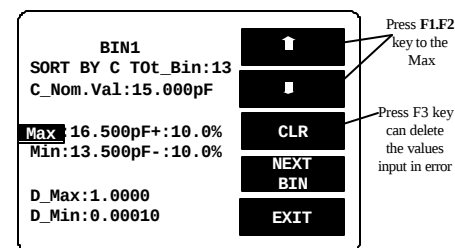

Figure 8-17
- Press  $\Delta$  key. Please refer to Figure 8-17 below.